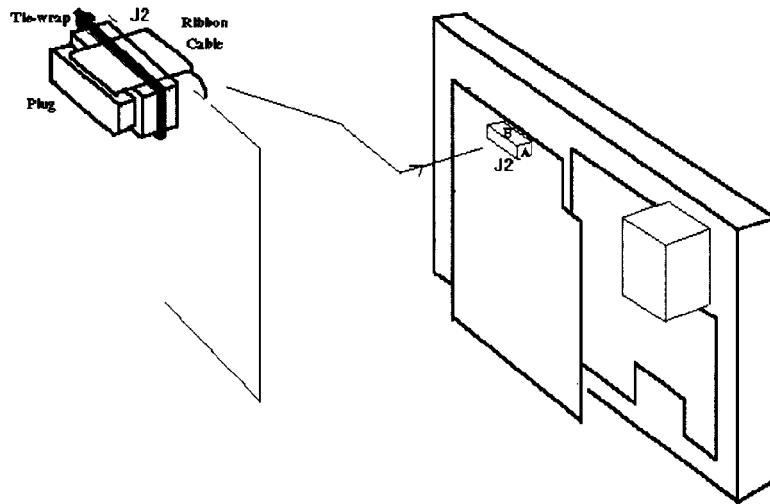

Figure 1
7. With reference to Figure 1, remove the plug from J2 socket on the 37714-60002 (A2) assembly.
12. Fit the tie-wrap as shown in figure 1 and pull tightly.